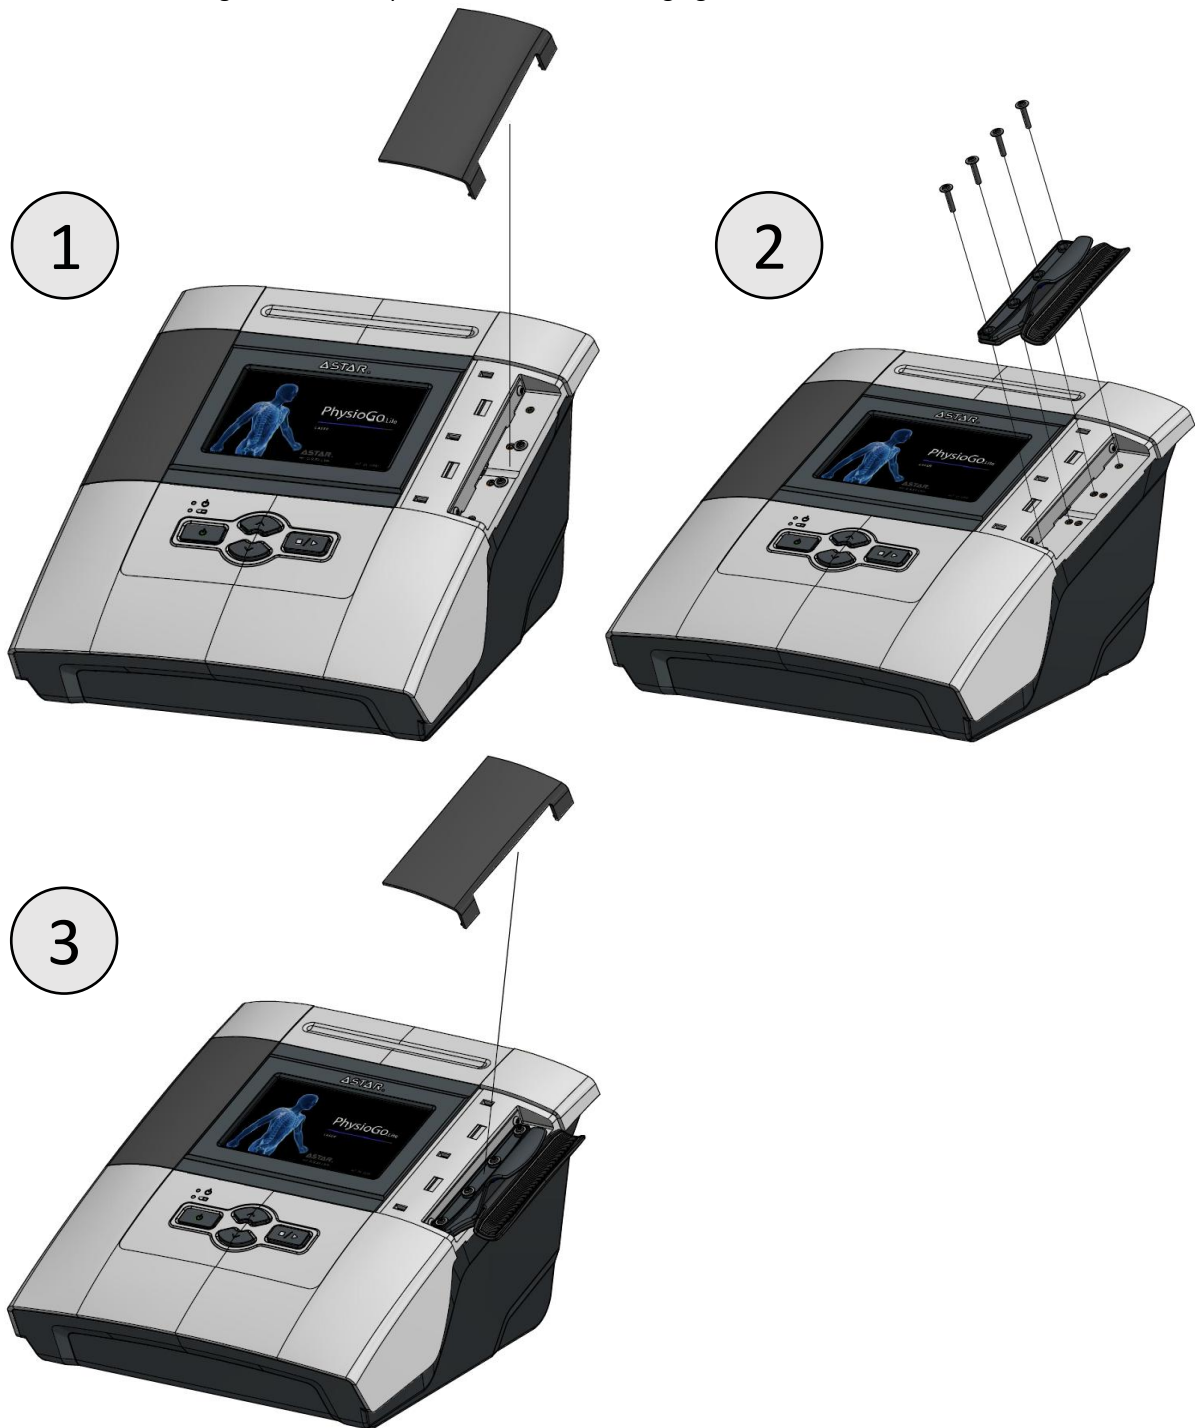

Figure 6-1 Method of mounting the point applicator holder
2.	Adjust the holders and screw bolts in according to Figure 6-1 and Figure 6-2.